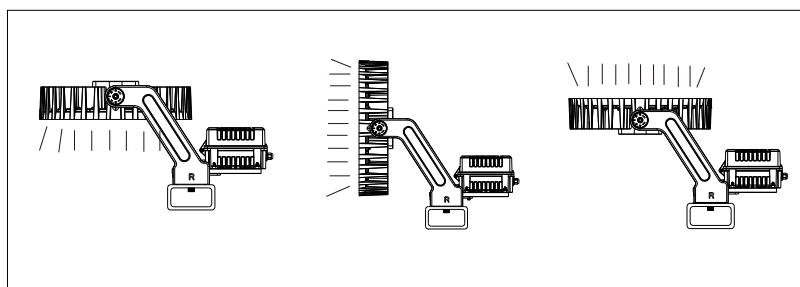

Figure 6
5. Adjust the projection angle within the specified range as required (Figure 6).